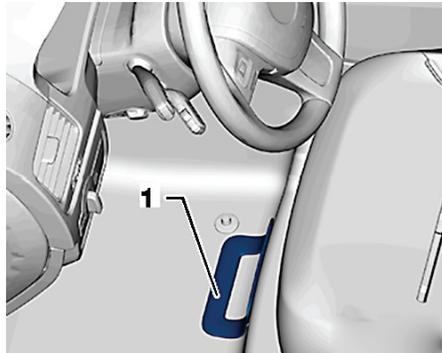

Fig. 1 Flap location
5. Open flap (1) inside carpet in front of lefthand front seat, Fig. 1.
12. Close flap (1) inside carpet in front of lefthand front seat, Fig. 1.